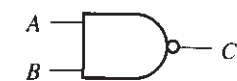

Fig. 2
2. Figure 2 shows a NAND gate with two inputs, *A* and *B*, and one output, *C*. Four such gates are contained in a 74LS00 chip, the pin assignment of which is shown in Fig. 3. Connect this chip to a 5 V power supply, as shown in the figure. Connect a voltmeter to the output of a NAND gate on the chip. In the following steps, you will be asked to apply an adjustable voltage at the input(s) of this gate and to observe and plot the behavior of the output voltage (at *C* in Fig. 2) as the input voltage is changed from 0 to 5 V. **Make sure that the input voltages do not exceed  $V_{CC}$  in any case.**